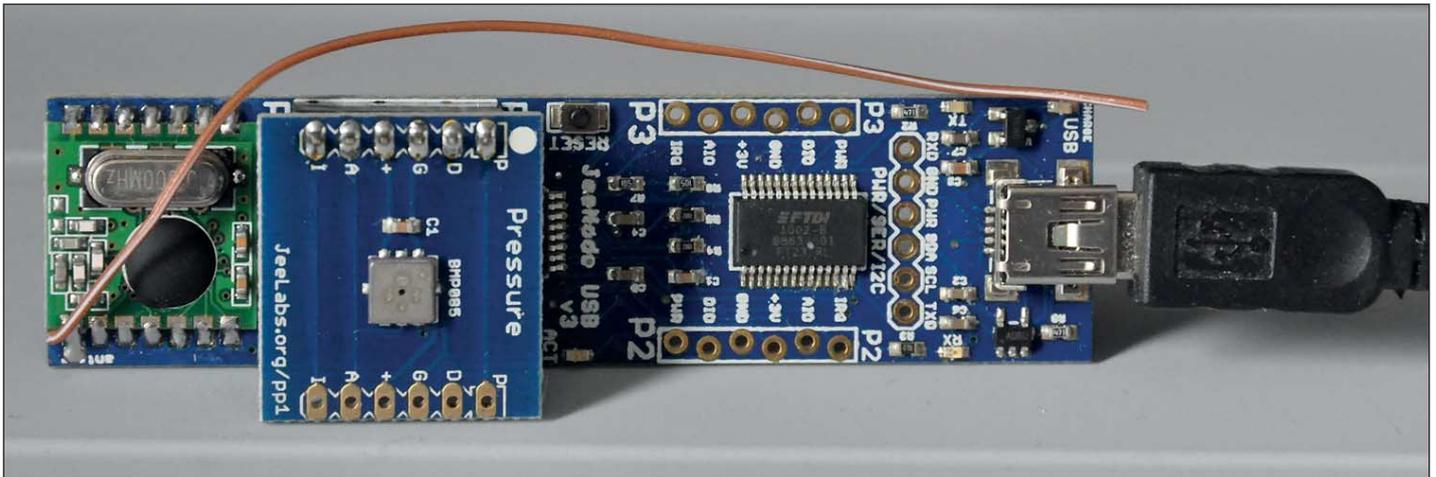

Figure 1 - General view of the JeeNode Barometer.
**Figure 1** shows a general view of the *JeeNode* Barometer, looking directly down on the board. The USB connector is on the right and the (unused) RF interface on the left. The pink wire is the antenna for the RF interface. The Pressure Plug is the square board left of centre, and you can just see a few of the pins from the surface-mount processor to the right of it. The chip right of centre is the FTDI serial-to-USB chip. There are red and green LEDs which flash when serial data is sent or received.